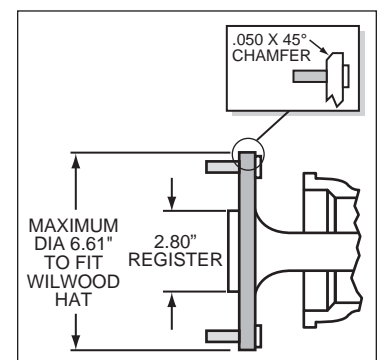

Figure 3. Axle Flange Maximum Dimension
- Maximum axle flange diameter must be no larger than 6.61" w/.050" x 45° chamfer (Figure 3).